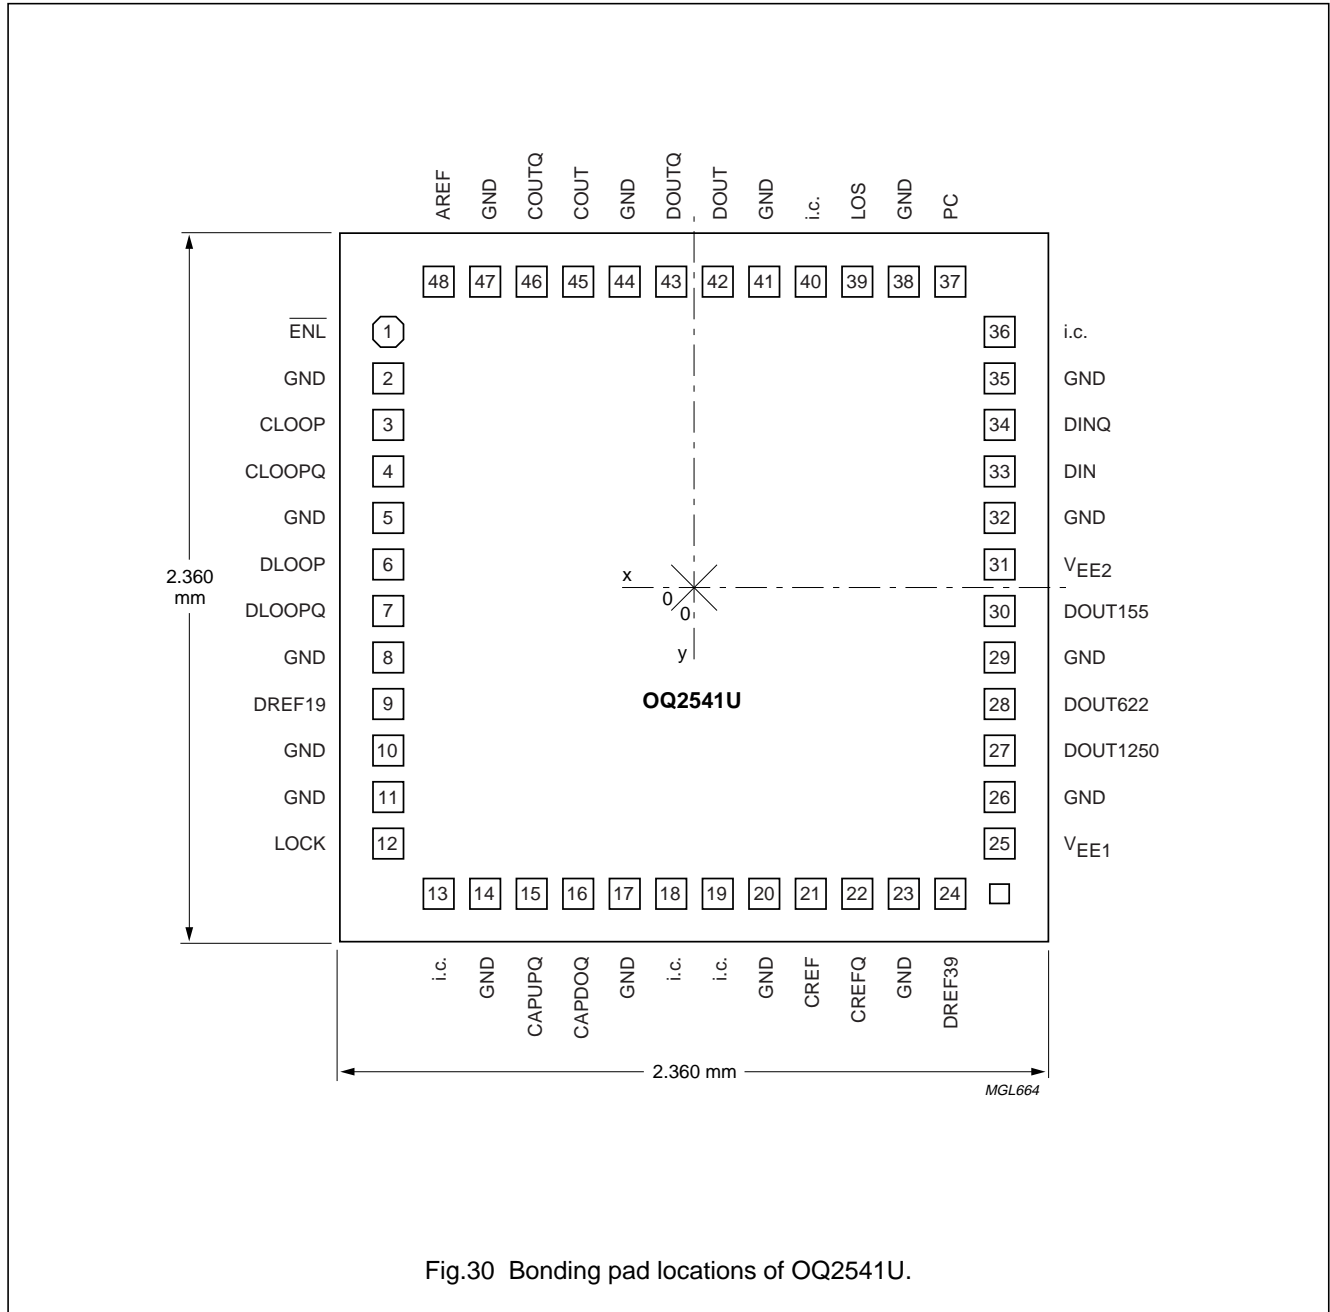

Fig.30 Bonding pad locations of OQ2541U.
1. All x and y coordinates represent the position of the centre of the pad in μm with respect to the centre of the die (see Fig.30).